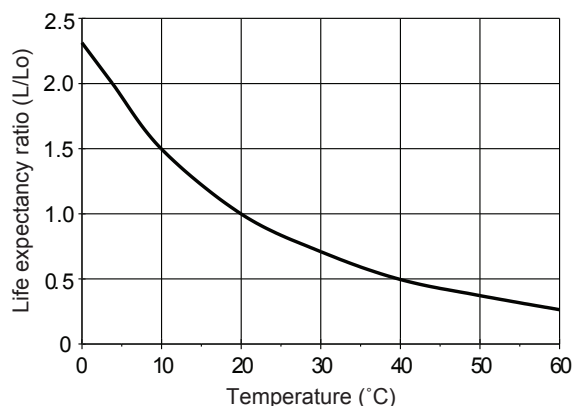

Fig. 9b - Relationship of life expectancy vs. temperature (Lo = life at 20°C)
Figure 9b shows the relationship between life expectancy and ambient temperature. The Y-axis indicates the ratio of life expectancy at a given temperature (L) compared to life expectancy at 20°C (Lo). A correlation exists between the sensor's life time and its storage temperature—the life time becomes shorter as the storage temperature increases.